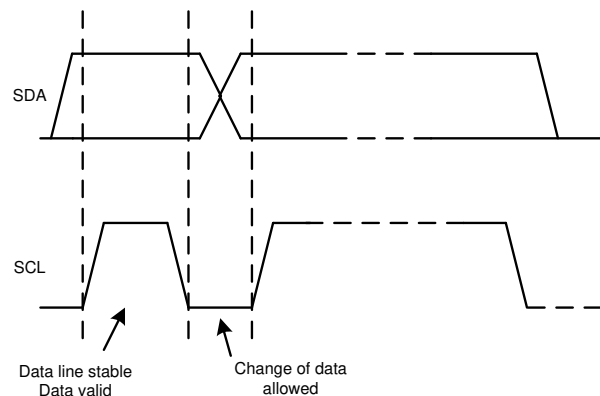

图 7-20. Bit Transfer on the I2C Bus
2. The controller then generates the SCL pulses, and transmits the 7-bit address and the read/write direction bit ( $R/\overline{W}$ ) on the SDA line. During all transmissions, the controller makes sure that data are valid. 图 7-20 shows that a valid data condition requires the SDA line to be stable during the entire high period of the clock pulse. All devices recognize the address sent by the controller and compare the address to the respective internal fixed address. Only the target device with a matching address generates an acknowledge by pulling the SDA line low during the entire high period of the 9th SCL cycle (see also 图 7-18). When the controller detects this acknowledge, the communication link with a target has been established.